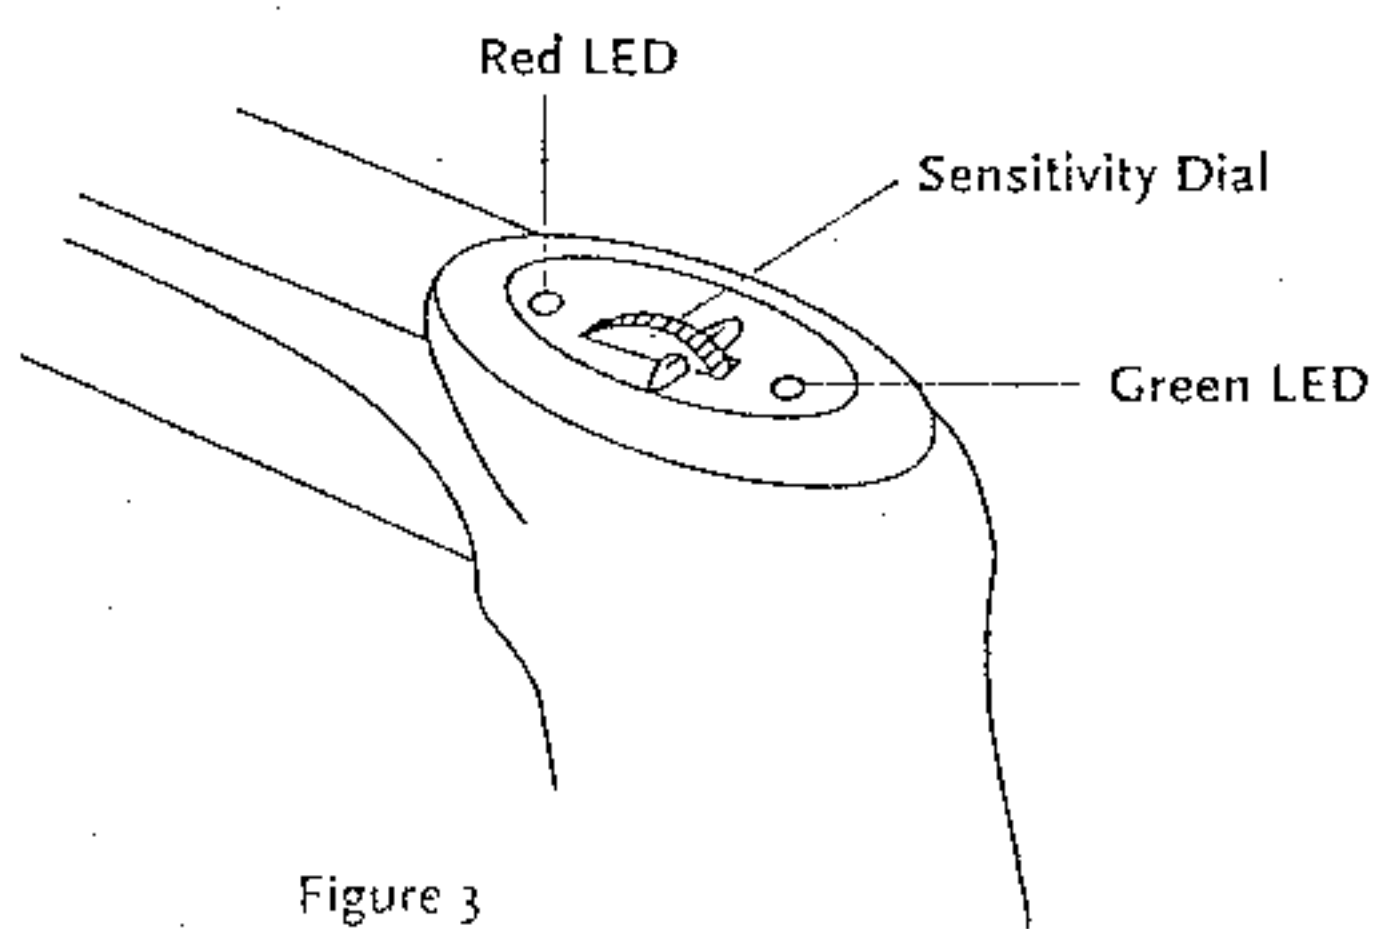

Figure 3
- ☐ A red LED to indicate power is on. (Figure 3)
- ☐ A green LED to indicate metal is detected. (Figure 3)